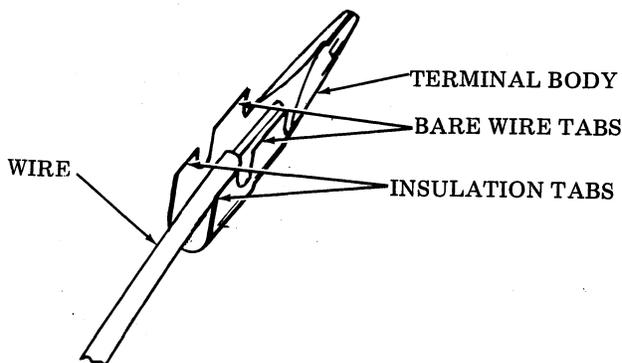

Fig. 33
3.20 Insert wire in the terminal from the front so that the bare wire is inside the bare wire tabs and the wire insulation is stopped by the bare wire tabs. The wire should not extend into the body of the terminal. See Fig. 33.